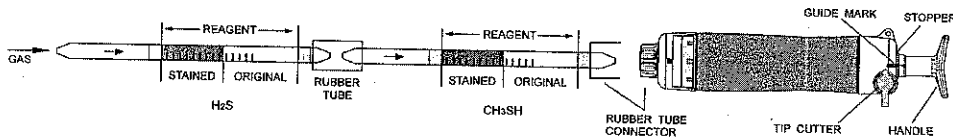

Fig.1
- ① Break both ends of detector tube, and connect each end of detector tubes with a rubber tube as shown in Fig.1. (Arrow mark shall point to the pump.)
- ② Insert the MERCAPTANS detector tube into aspirating pump securely as shown in Fig.1. (Arrow mark shall point to the pump.)
- ③ Align the guide marks on the shaft and stopper of the aspirating pump.
- ④ Pull the pump handle at full stroke until it locks and wait for 3 minutes or until the completion of sampling is confirmed with the flow indicator of the pump (See descriptions about the flow indicator in the instructions of the pump).
- ⑤ On completion of sampling, read the scale at the maximum point of the stained layer.